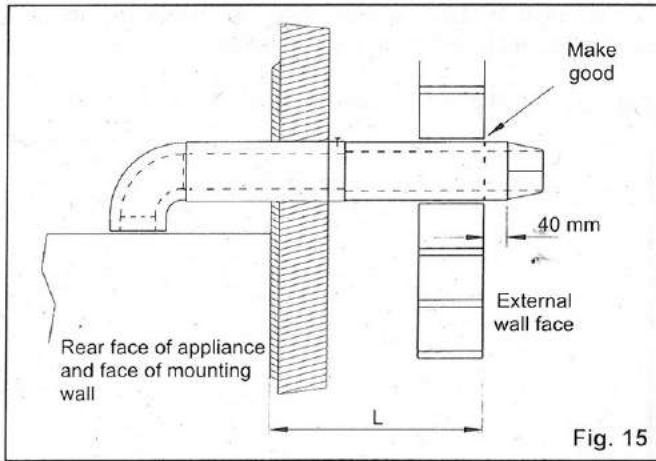

Fig. 15
Check the contents of the standard flue duct kit against the packing list. Similarly check the extension duct kits if applicable. Remove all the packing from the ducts and terminal assembly. The standard flue kit is telescopic, and requires no cutting providing that the total length of the flue assembly is 500mm long measured from the appliance casing to the outer wall face. See dimension L, Figs.15 and 16. When dimension L is greater than 500mm extension flue assemblies will be required.
1) Should $L = 500$ to 600 mm then cut the terminal assembly ducts reducing the length of the ducts to 200 mm. Then cut each extension to 200 mm (see fig 15). Assemble the flue as described below ensuring the correct length ($L + 70$ mm for RH side flues, $L + 250$ mm for LH side flues, or $L + 155$ mm for rear flues)